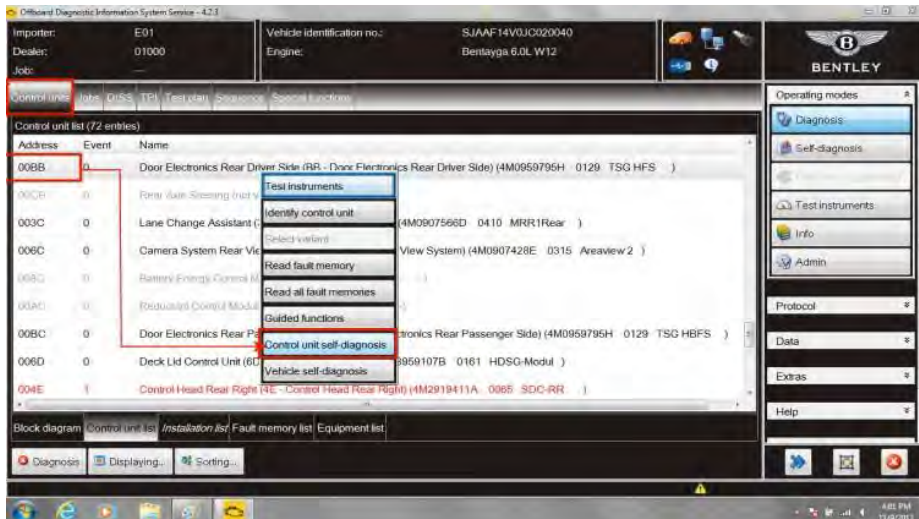

Figure 7
17. Within *Control units* – Select (single touch) *00BB Door Electronics Rear Drivers Side* – Reveal drop down menu (extended touch and release). Select *Control unit self-diagnosis* (see Figure 7)